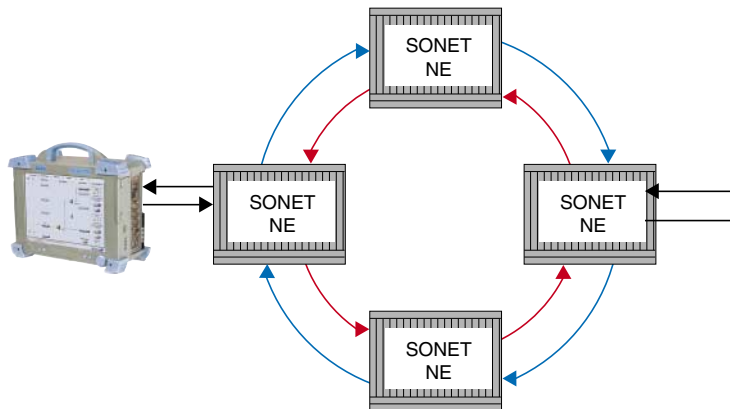

Figure 1.1. Configuration for continuity, BER testing, delay and alarm processing
1. Connect the FTB-8000 according to the applicable configuration (see Figure 1.1).
1. Connect the FTB-8000 according to the applicable configuration. This test requires a loopback to facilitate return traffic (see Figure 1.1).